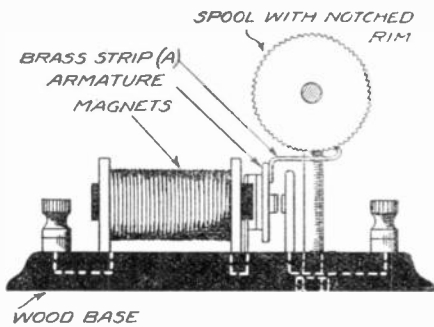

FIG. 1
A SPOOL and an ordinary electric buzzer can be combined to make a unique and practical motor for running toys and moving show window attractions. A side view of the buzzer motor is given in Figure 1.
A strip of thin springy brass or a piece of a watch spring one inch in length and about one-eighth of an inch wide is soldered to the top end of the vibrating armature directly under the rim of one end of the spool. The spring is bent down at right angles to the armature and the end of the strip is formed into a small half hook which engages the rim of the spool. (A) in Figure 1 illustrates how this is done. This is the most important detail and it must be accurately done for the best results. The rim of the spool is finely notched by filing out notches all the way around.